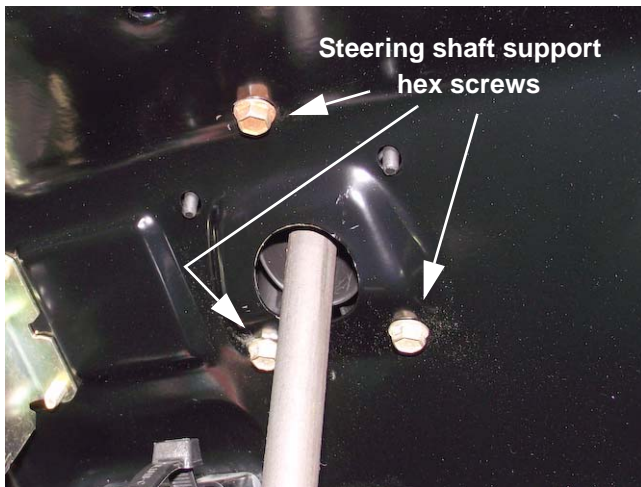

Figure 3.12
4. From under the dash remove the three hex screws and remove the steering shaft support. See Figure 3.12.